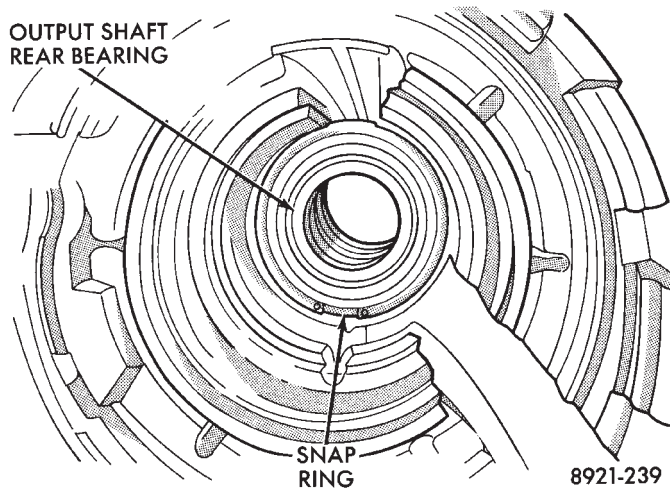

Fig. 15 Output Shaft Rear Bearing And Snap Ring Location
- (16) Remove output shaft rear bearing snap ring (Fig. 15). Remove snap ring with long jaw internal type snap ring pliers. Or, rotate snap ring until one end is adjacent to notch in case. Then unseat ring with long flat blade screwdriver.
- (17) Remove rear bearing by tapping overdrive case on wood block to dislodge bearing.